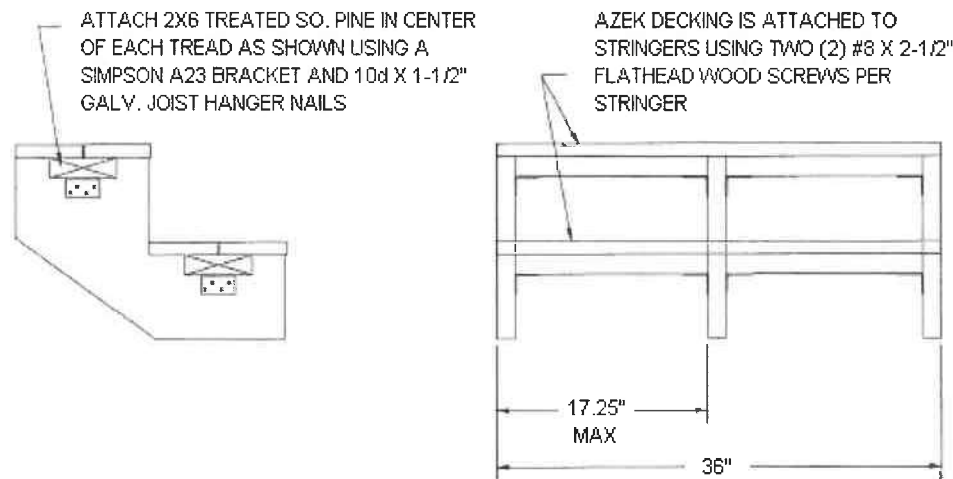

Figure 6 – Alternate 1 X 5-½ Stair Tread Installation for 17.25” Span
17.25"	2X6 additional supports. See Figure 6 for installation details.